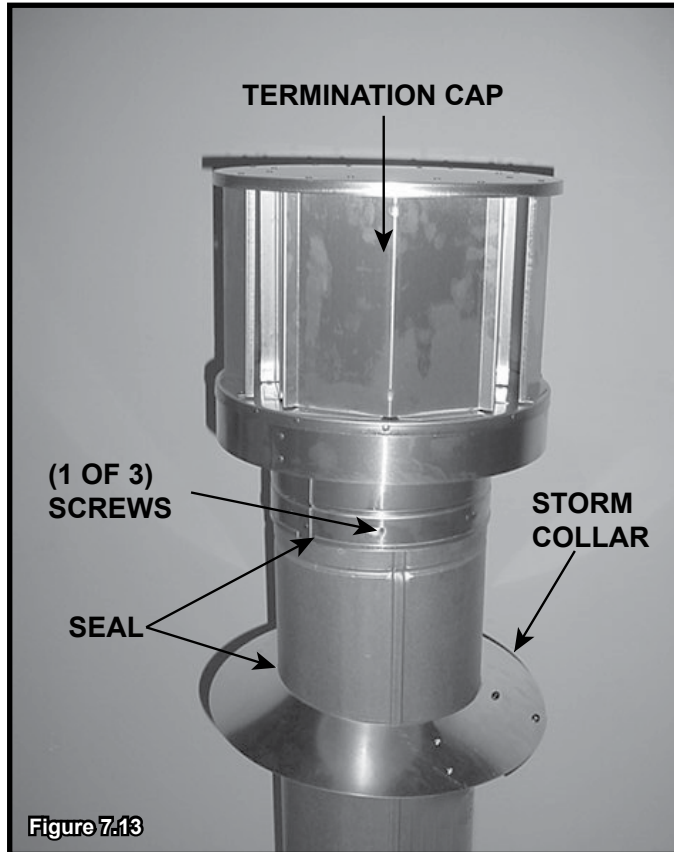

Figure 7.12 Insert Bolt into Brackets
- Slide the assembled storm collar down the pipe section until it rests on the roof flashing. See Figure 7.12.